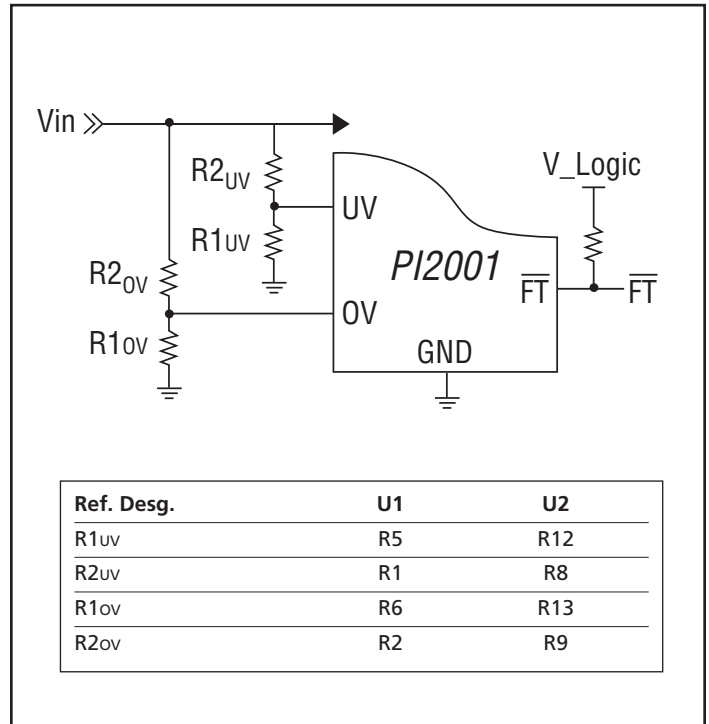

Figure 4 – UV & OV two-resistor divider configuration
2.1 UV and OV programmable resistors are configured for a 3.3 V Vin (BUS voltage) application in a two-resistor voltage divider configuration as shown in Figure 4. UV is set to 2.6 V and OV is set for 3.8 V, R1OV and R1UV are 2.00KΩ 1%. If PI2121-EVAL1 is required to be used in a different Vin voltage . . application please follow the following steps to change the resistor values.